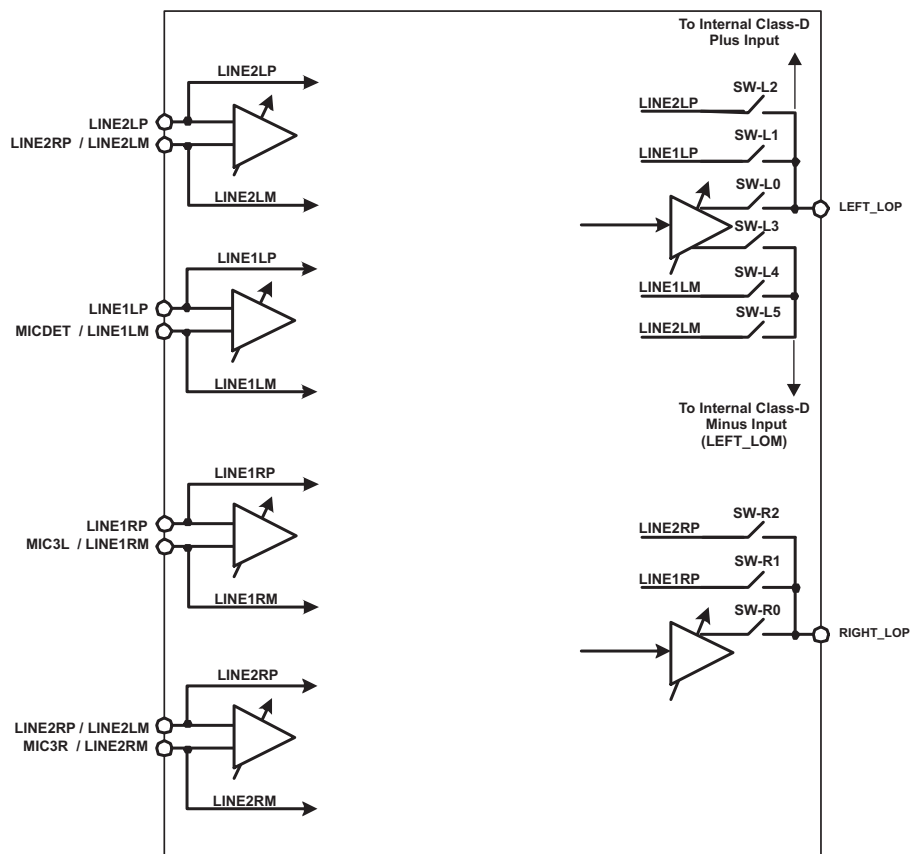
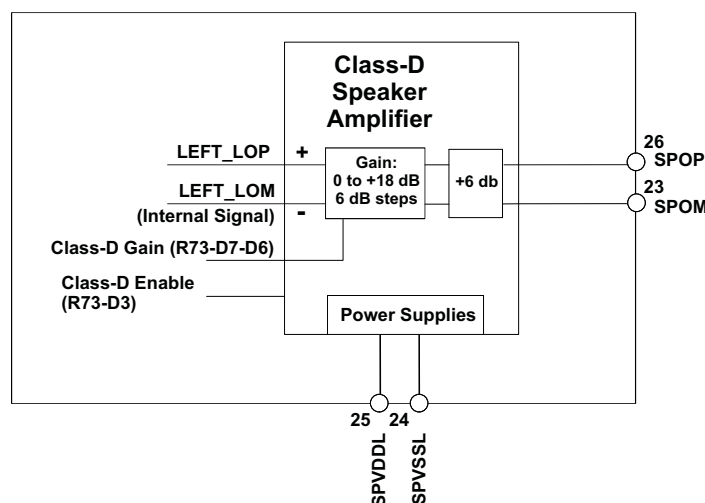

Figure 32. Passive Analog Bypass Mode Configuration
Figure 39. Differential Class-D Speaker Circuit
Programming the TLV320AIC3007 to Passive Analog bypass occurs by configuring the output stage switches for pass through. This is done by opening switches SW-L0, SW-L3, SW-R0, and closing either SW-L1 or SW-L2 and SW-R1 or SW-R2. See Figure 32 Passive Analog Bypass Mode Configuration. Programming this mode is done by writing to Page 0, Register 108.
Connecting MIC1RP/LINE1RP input signal to the RIGHT_LOP pin is done by closing SW-R1 and opening SW-R0, this action is done by writing a “1” to Page 0, Register 108, Bit D4. Connecting LINE2RP/LINE2LM input signal to the RIGHT_LOP pin is done by closing SW-R2 and opening SW-R0, this action is done by writing a “1” to Page 0, Register 108, Bit D6. A diagram of the passive analog bypass mode configuration can be seen in Figure 32.
Differential Class-D speaker outputs are available on the SPOP and SPOM pins as shown in Figure 39. The integrated Class-D speaker amplifier can drive a one Watt audio signal into a differential 8-Ω load. The plus input to the Class-D amplifier is the same signal available at the left lineout LEFT_LOP pin. The minus input to the Class-D amplifier is an internal signal that is sourced as shown in Figure 32. A register (73) is used to enable the Class-D amp and set its gain control (0 dB to +18 dB). Following the gain control and before the outputs is a fixed +6 dB gain. Note that there are many other gains available in the signal path leading up to the Class-D amp so for best results the user must map the gains correctly.